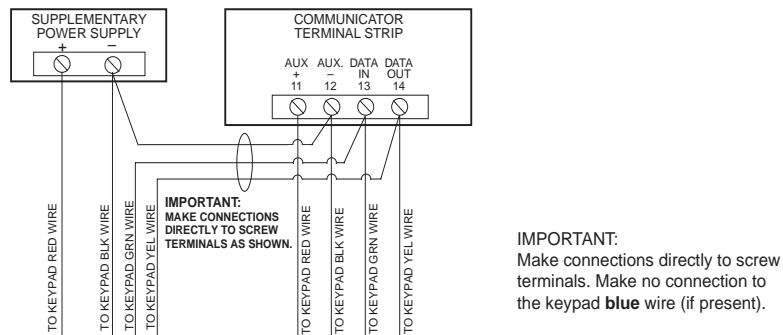

Figure 5-2: Using a Supplementary Power Supply for Keypads
Connect the additional keypads as shown in *Figure 5-2*, using the keypad wire colors shown. Be sure to observe the current ratings for the power supply used.
1. Make connections directly to the screw terminals as shown in Figure 5-2. Make no connection to the keypad blue wire (if present).